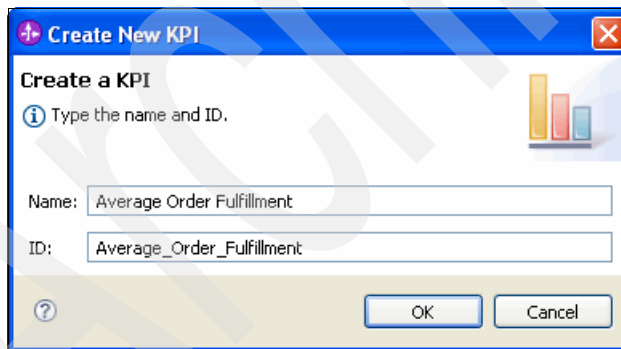

Figure 8-98 Setting the KPI name
5. In the Create New KPI window (Figure 8-98), for Name, type Average Order Fulfillment and click **OK**. This KPI calculates the average time for the order fulfillment.